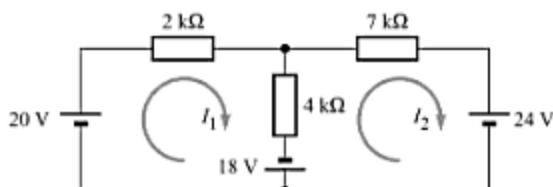

Fig. A-70
- A-28. Solve for the mesh currents in the circuit of Fig. A-70. [Ans.  $I_1 = 5\text{ mA}$ ,  $I_2 = -2\text{ mA}$ ]
- A-29. Determine the mesh currents in the circuit of Fig. A-70, if the 24-V source is replaced by a source of  $-1\text{ V}$ . [Ans.  $I_1 = 7\text{ mA}$ ,  $I_2 = \text{mA}$ ]